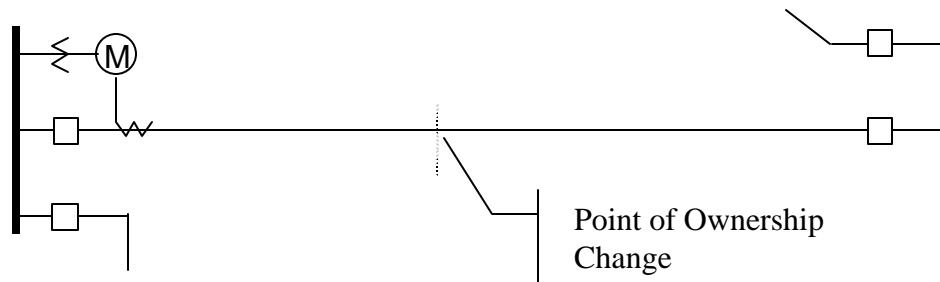

Figure B.2: Joint Ownership Line Metering Requiring Loss Compensation
- The need for loss compensated metering may also exist when the ownership changes several miles along a transmission line where it is simply impractical to install metering equipment. Ownership may change at the midway point of a transmission line where there are no substation facilities. In this case, power metering must again be compensated. This condition is shown in Figure B.2.